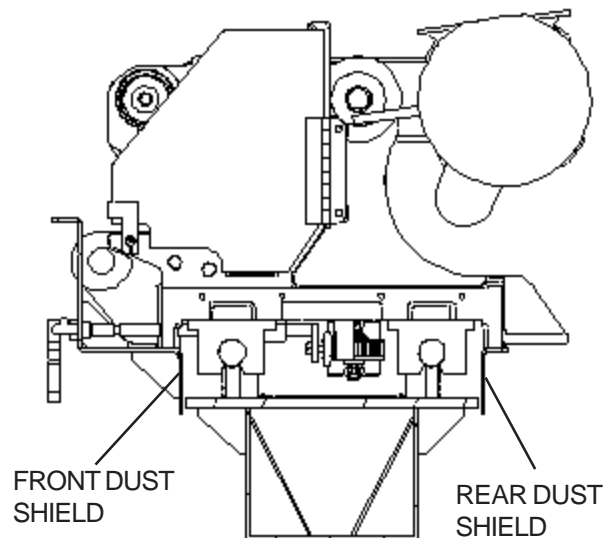

FIG. 15
**STEP 1**--Detach the bellows mounting brackets from the carriage. Detach front and rear shields. See FIG. 15.
**STEP 6**--Replace the bellows carriage mounting brackets onto the carriage. Replace front and rear shields. See FIG. 15.